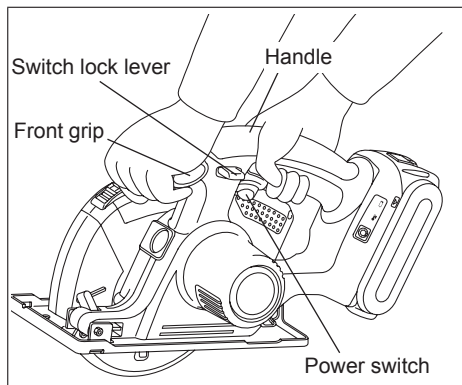

Fig. 8
Hold the tool with both hands. (See Fig. 8) Do not attempt to remove cut material when blade is moving.
- Always hold the handle with one hand and the front grip with the other. (See Fig. 8) Maintain a firm grip and depress the switch fully.